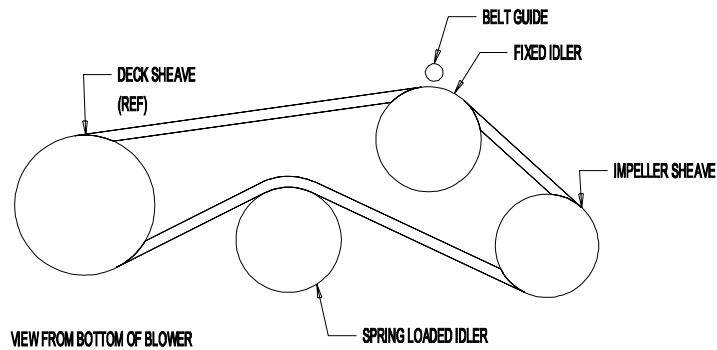

FIGURE 7
- 3.6.1. Remove the belt guide on the blower (Item 11). (See Figure 7)